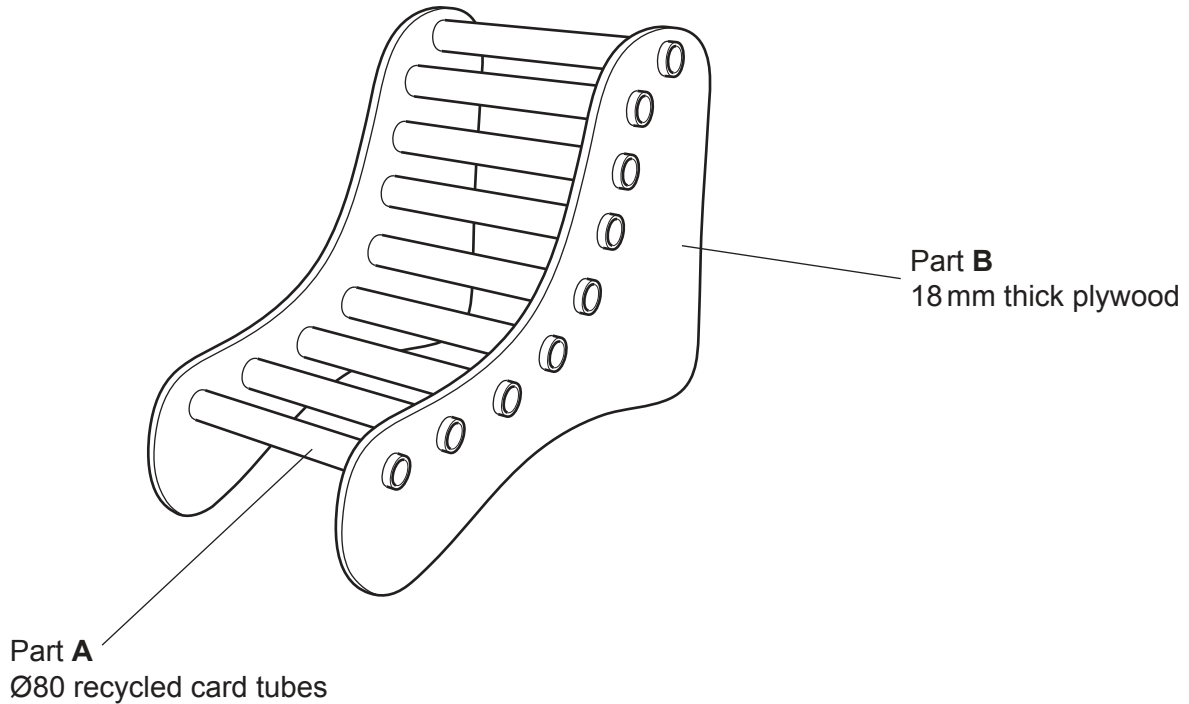

Fig. 1.1
- 1 Fig. 1.1 gives details of a chair which is to be made in a school workshop.